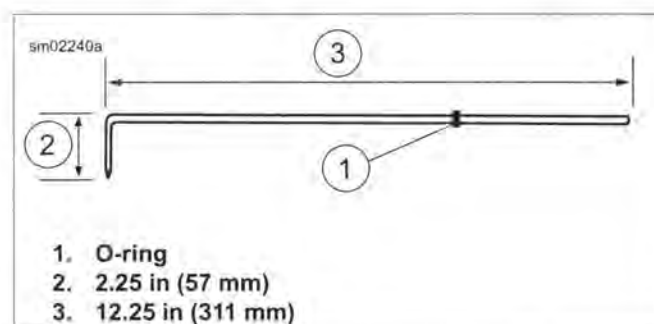

Figure 2-48. Alignment Tool
- Create an alignment tool. See Figure 2-48. To verify accurate measurements, obtain a piece of 1/8 in (3.2 mm) aluminum welding rod 12.25 in (311 mm) long.